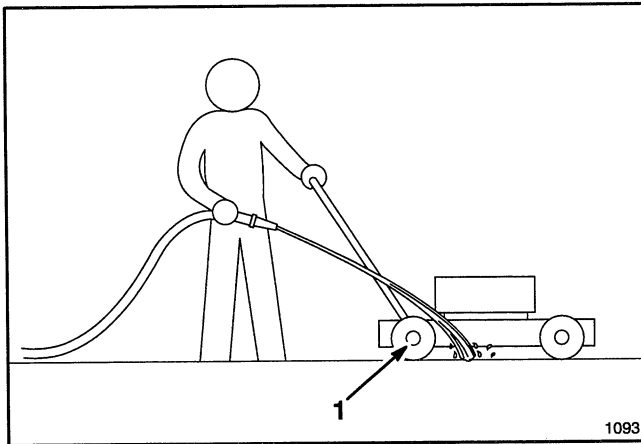

Figure 30
4. Hold the running garden hose at handle level and direct water to flow on ground just in front of right rear tire (Fig. 30). The rotating blade will draw water under the deck and wash out clippings. Let the water run for a few minutes or until you no longer see clippings being washed out from under deck.